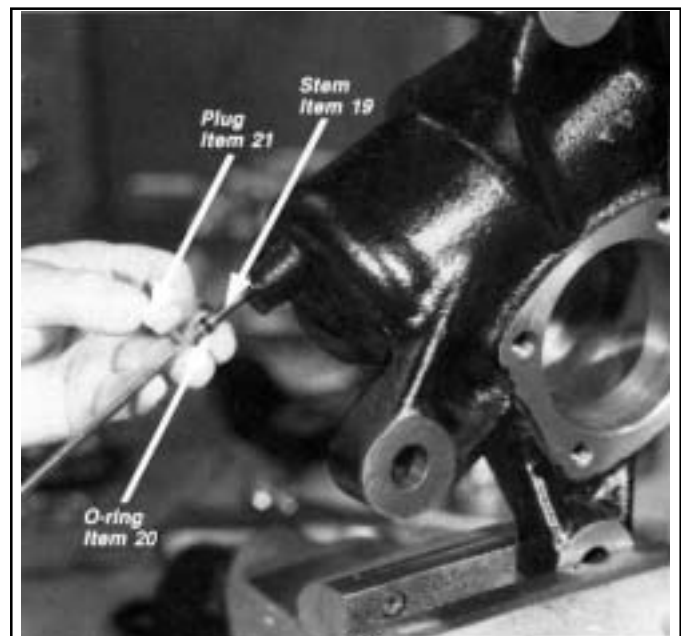

FIGURE 53 - INSTALLING OUTPUT SHAFT ROLLERS IN HOUSING
26. Install the seventeen rollers of the bearing (26) in the outer race contained in the housing (22). Use a heavy coating of lithium grease to hold the rollers in place. **IMPORTANT: The seventeen rollers that are installed must be the same rollers that were removed from this bearing during 'Disassembly'.** *Figure 53*
27. Align the steering limiting stem (13) in the valve body (7) with the steering limiting valve seat (17) in the piston (23). Insert the piston (23) into the housing (22) so that the rack teeth of the piston are visible in the side cover opening in the housing. (*Figures 20 & 53*) Make certain that the valve body is oriented in the housing so that the marks made during disassembly align. Slide the piston and valve body assembly completely into the housing taking SPECIAL CARE not to damage the piston glide ring (14) and the valve body O-rings(12). Secure the valve body(7) to the housing (22) using four bolts (40). Torque the bolts to 81-88 pound feet for the C-300N and 92-99 pound feet for the C-500N using a 19mm socket and socket and torque wrench. Rotate the input shaft of the spindle (3) until the rack teeth of the piston are centered in the side cover opening in the housing. *Figure 53*